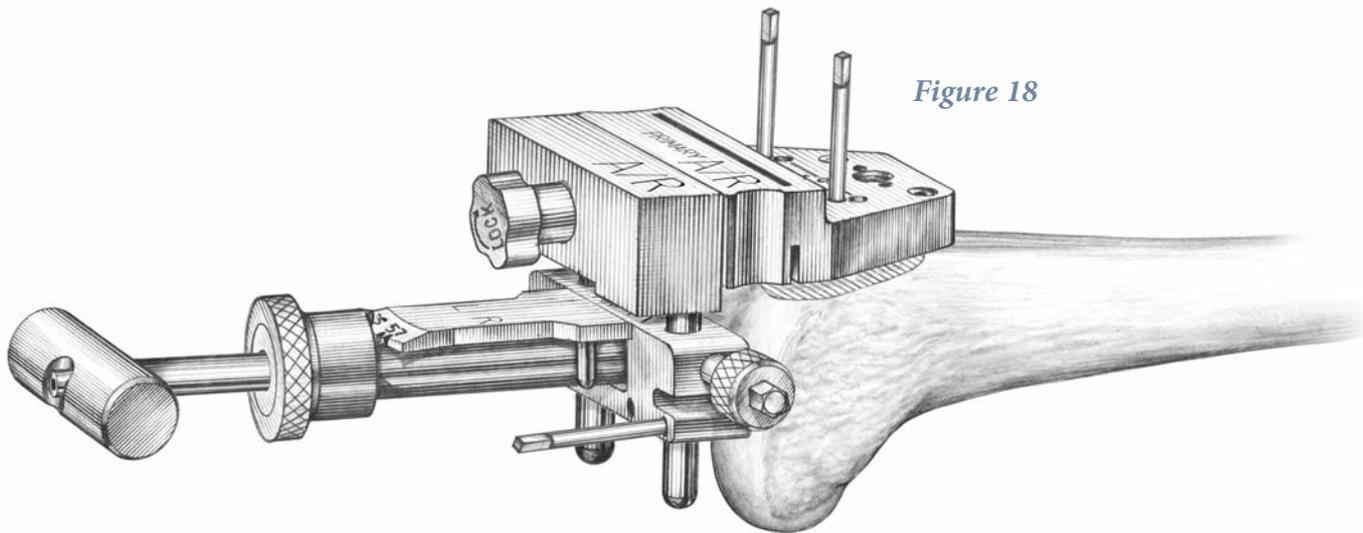

Figure 18
- ▶ Once secured (**Figure 18**) remove the Distal Femoral Alignment Guide by first removing the 1/8" pins in the distal femur. Remove the IM Rod, then slide out the Distal Femoral Alignment Guide and Distal Resection Guide Stand, leaving only the Distal Resection Guide in place.